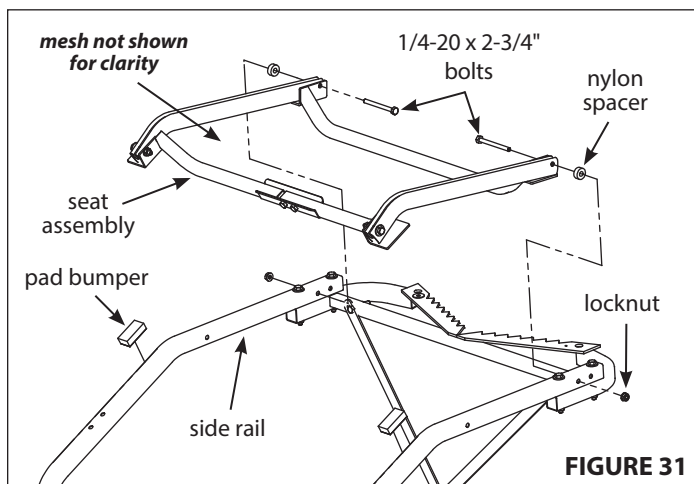

FIGURE 31
6. Attach the seat assembly to the inside of the side rails using (2) previously installed 1/4-20 x 2-3/4" bolts, locknuts, and 5/16" nylon spacers (48639). Attach 5/16" nylon spacers between seat assembly and side rails. **SEE FIGURE 31.**
7. Stick the pad bumpers (48102) to the top face of the side rails. **SEE FIGURE 31.**